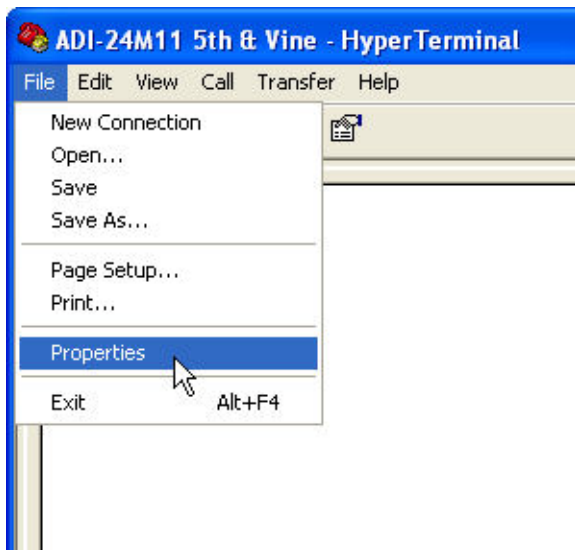
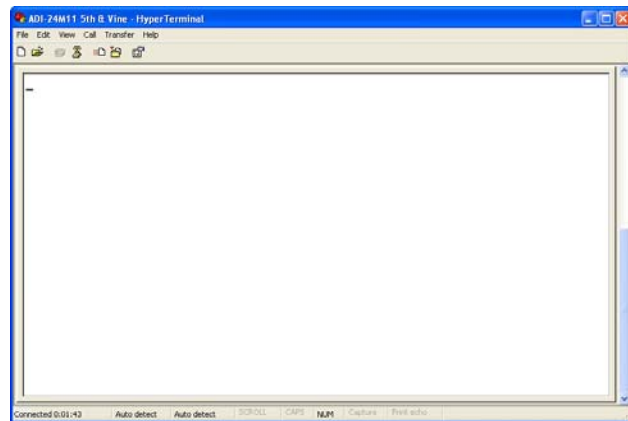

FIGURE 18
FIGURE 21
- 5 The blank terminal interface screen appears as shown in Figure 18. On the File menu go to properties and click once.
- 8 The **'BBS (ADI-24M11 5th & Vine in this case) Properties'** window reappears (Figure 21). Click the **OK** button.
- 9 HyperTerminal Setup is now finished. The blank terminal interface window reappears as in Figure 18. Press the ENTER key to begin accessing the unit with RS-232 serial communications. The Dimensions BBS interface screen appears as in Figure 21. Go to Section 6.3 to begin using the BBS Communications interface.